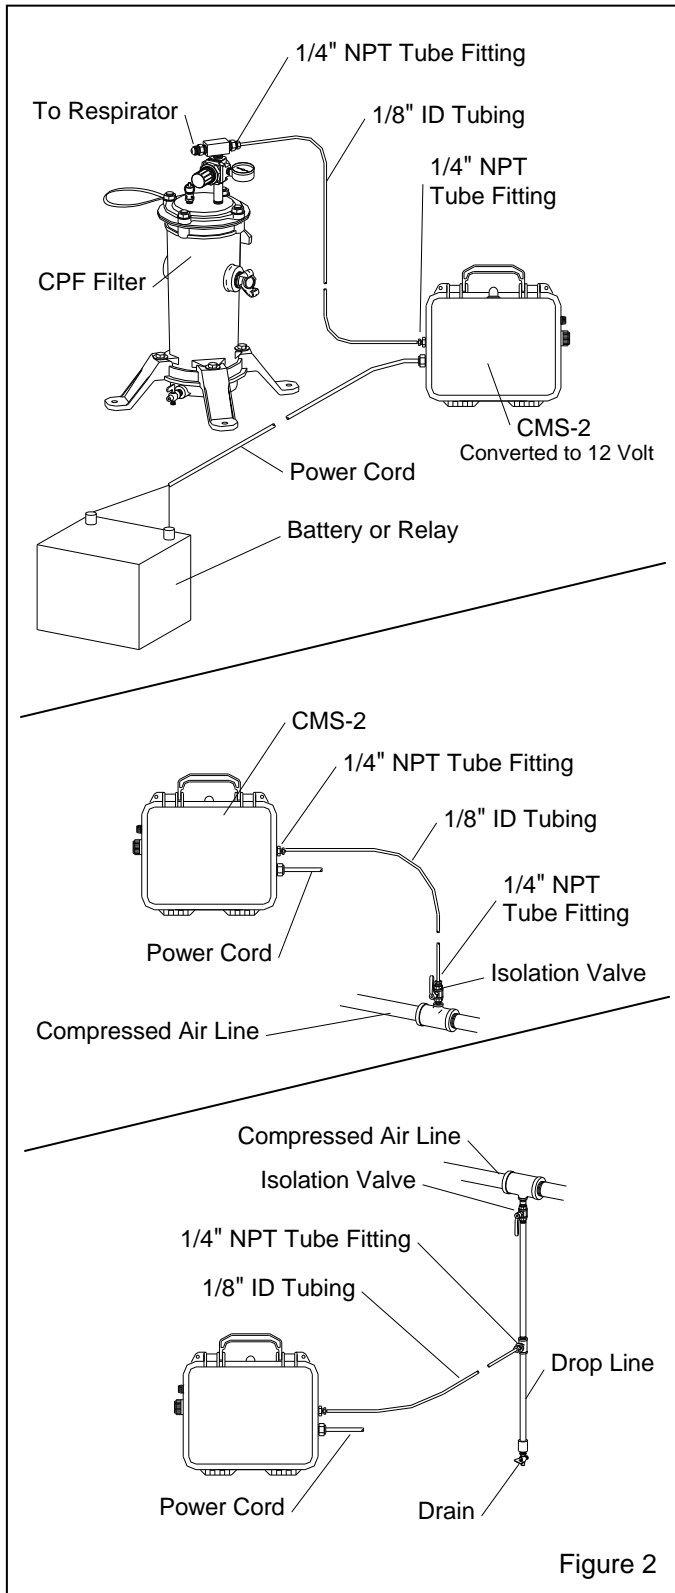

Figure 2
2.1.2.4 Place a tee in the air supply line, and use a bushing or other adaptor, to connect one of the 1/4" NPT tube fittings supplied. Install an isolation valve at the source to enable depressurization to remove the monitor. Typical set-ups are shown in Figure 2.